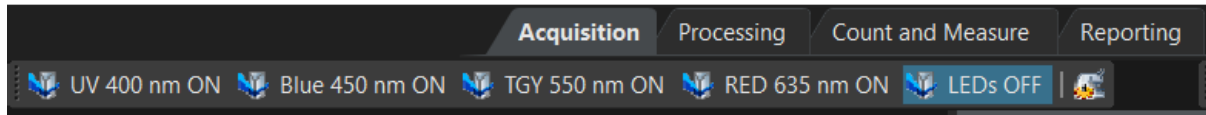

Figure 11: Observation Methods can be accessed from the toolbar
- The created Observation Methods can now be accessed from the toolbar (Figure 11), or the Microscope Control window.